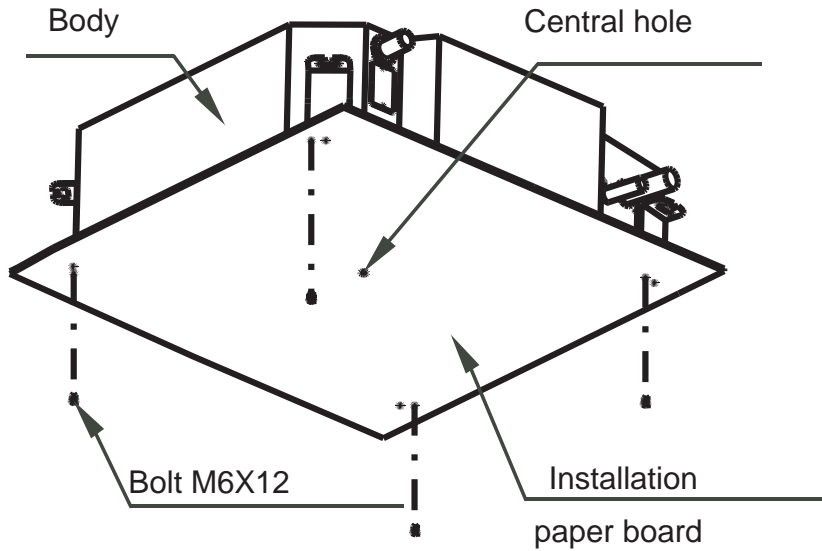
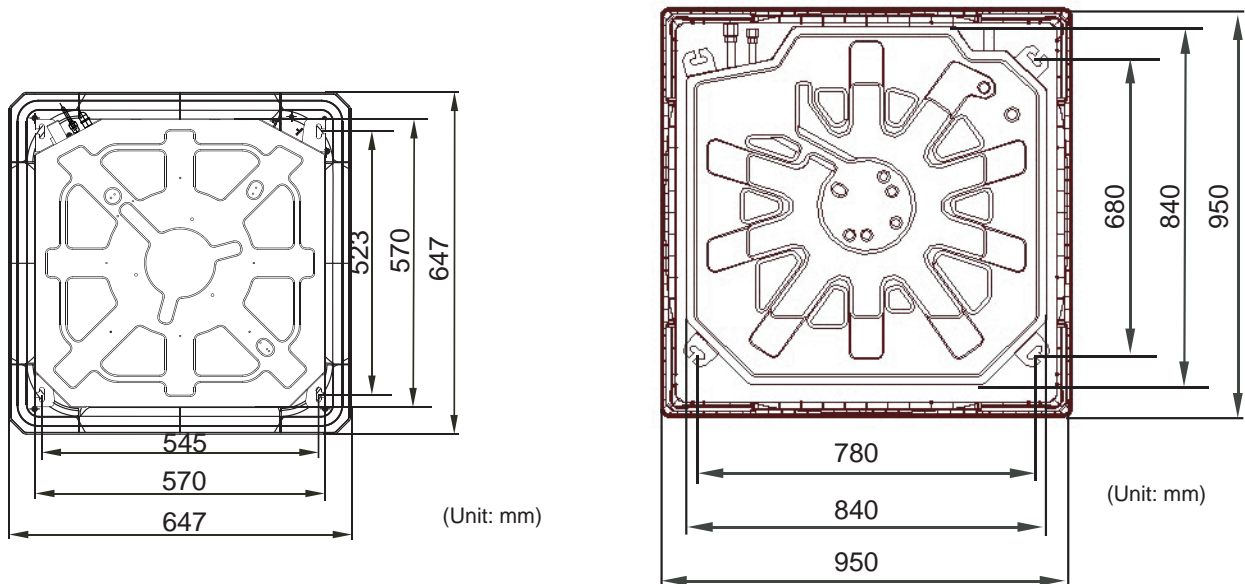

Fig.6
Fig.7
1. Use installation template (supplied with the panel) when deciding the suspension bolt position. Fig.6 and Fig. 7 show the dimensions relationship.